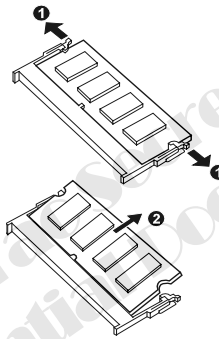

Figure 2-15 Remove the SO-DIMM
3. Pull the retaining clips outwards (❶) and remove the SO-DIMM (❷). (Figure 2-15)